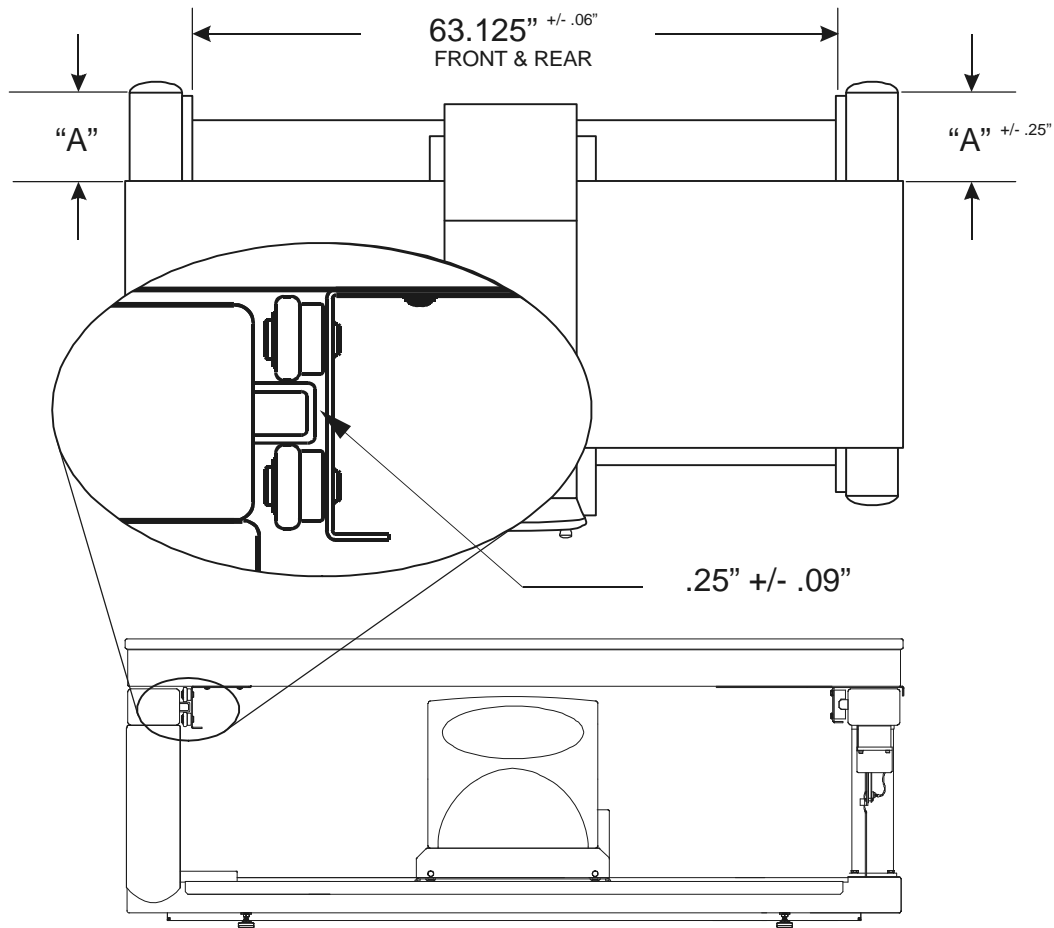

Figure 4-1. Table Alignment
1. Using a measuring tape, and referring to Figure 4-1, check the following: